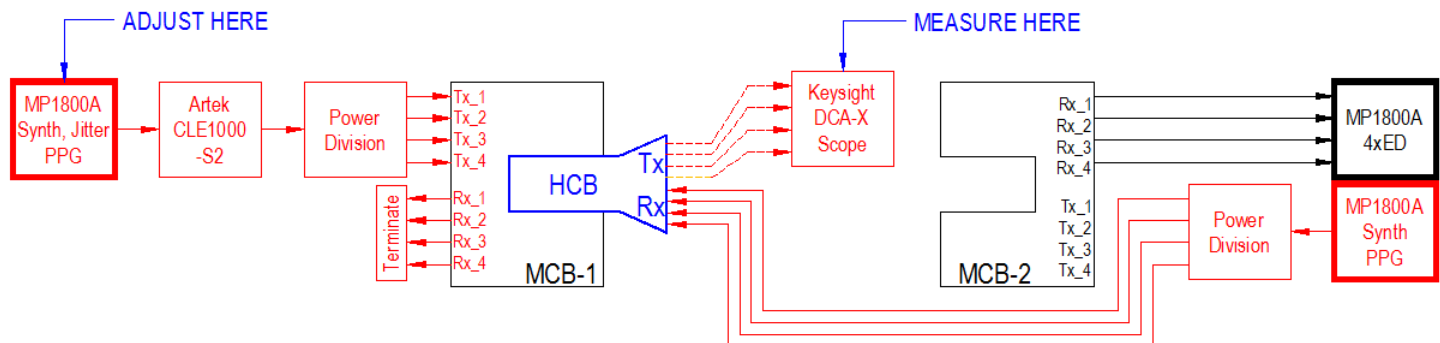

Figure 20. Victim calibration setup
**Goal:** To make final adjustments to Forward Traffic Signals, producing target Eye Width and Height for the DUT test. These signals will be calibrated with all stressors and aggressor traffic enabled. Calibration parameters to be determined for **CDR-Enabled** mode of cable testing. Refer to Figure 20 while executing the following steps.